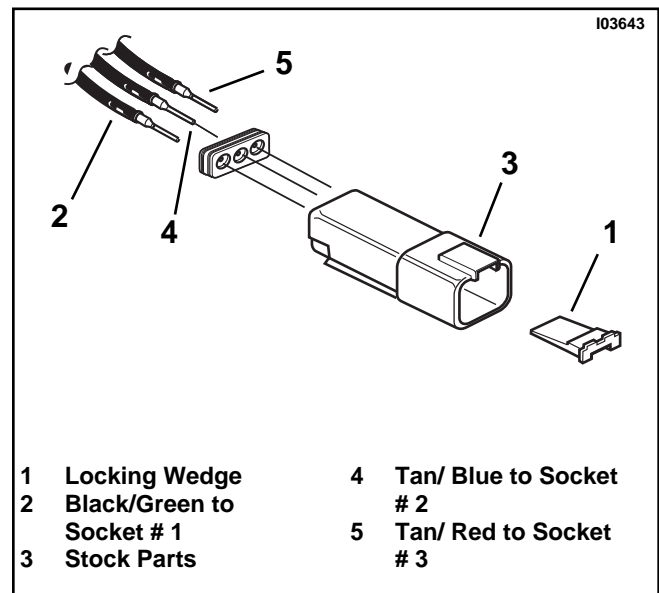

Figure 24. Install 3-Pin TRACK/DISC Advance Connector
- 1. See Service Parts Page Illustration. Obtain the 3-Place Receptacle (8) and Wedge Lock (11) from kit.
- 3. See Figure 24. Remove the rubber wire seal from the connector.